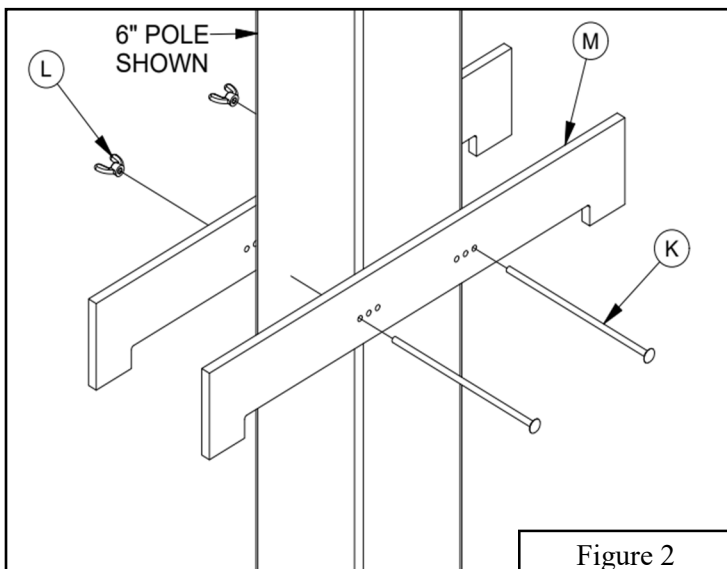

Figure 2
- 5a. Using the two $1/4"$ x $8"$ *Carriage Bolts* (K) and $1/4"$ *Wing Nuts* (L), sandwich the *Predrilled Wood Panels* (M) around the pole assembly at a location where the pole assembly will insert into the concrete footing. Use the set of holes that are closest to the side of the pole assembly. Position them as shown in Figure 2. The *Installation Aid* (K-M) can be adjusted to support the pole in the proper position when inserted into the concrete.
- 6a. Fill the footing to the top with medium wet fully mixed concrete. Never use the *Premix Concrete* (N) dry.
- 7a. Insert the pole assembly into the center of the footing making sure that one set of $1/2"$ x $3/4"$ *Button Head Screws* (B) are on the back side of the pole assembly, and that the front face of the pole assembly is square to the playing surface. **Position of the screws is critical to the rigidity of the pole.**
- 9a. Fill the inside of the pole assembly with wet *Premix Concrete* (N) if desired to increase pole stability. This will require approximately 1.8 cubic feet of additional *Premix Concrete* (N). Trowel the top of the footing and clean concrete off the pole for a finished look.
- 10a. **ALLOW AT LEAST 4 DAYS FOR CONCRETE TO CURE BEFORE COMPLETING THE INSTALLATION TO AVOID FOOTING FAILURE. Install *Warning Label* (GG) at eye level on the rear of the pole. If your warning label becomes damaged or is unreadable, request a no cost replacement from the manufacturer.**